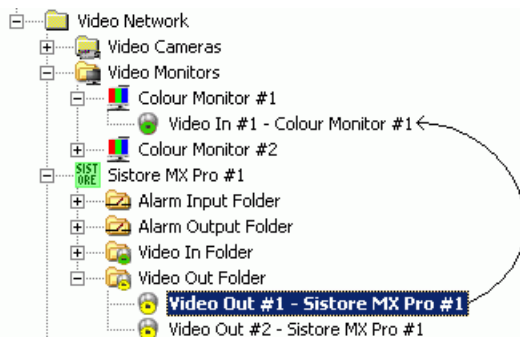

Fig 21 Connecting SISTORE to monitors
6. Drag and drop the 'video signal' to the monitor video-in node (Fig 21).